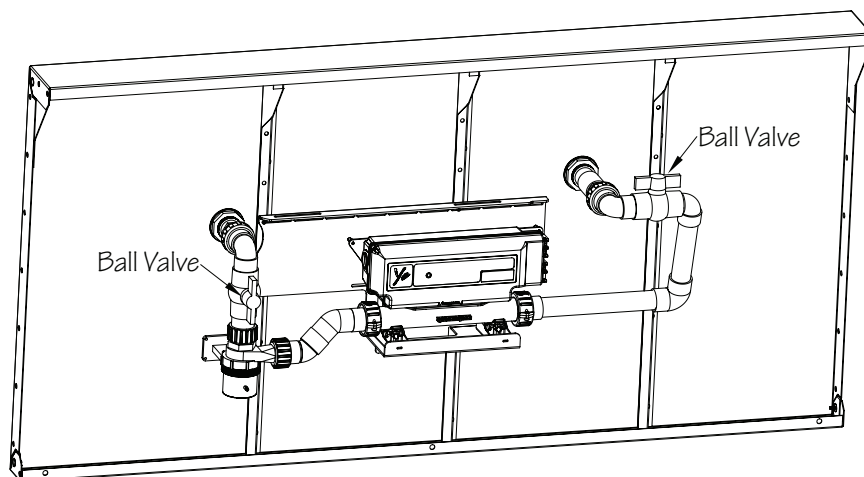

Fig. 19
20. Open the Ball Valve on the return side of the plumbing to allow the plumbing to fill with water. Then, open the Ball Valve above the pump (Fig. 19).